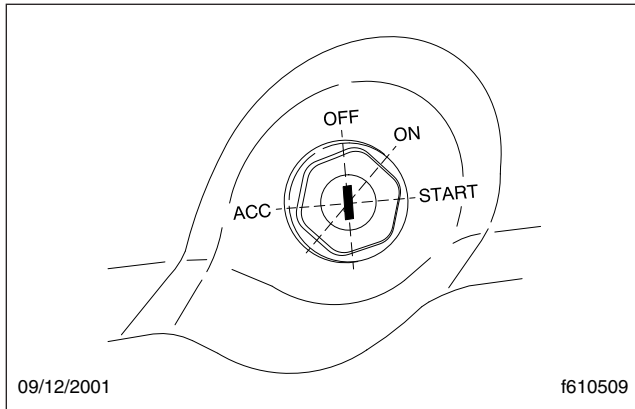

Fig. 16.10, Ignition Switch Positions
4. Ensure that the transmission shift control is in Neutral (N), Park (P), or the Park Brake (PB) position.
5. Without starting the engine, turn the ignition switch to the ON position (**Fig. 16.10**). The electronic gauges on the instrumentation control unit (ICU) will complete a full sweep of their dials, the warning and indicator lights will illuminate, and the buzzer will sound for three seconds.